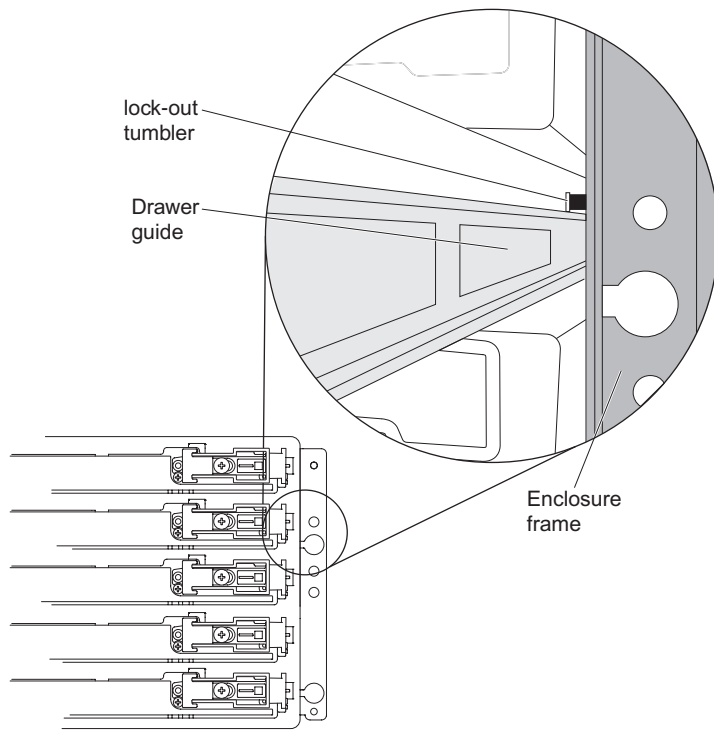

Figure 89. Lock-out tumbler located above the drawer guide
- a. At the front of the storage expansion enclosure, install the new drive drawer into the slot, making sure the lock-out tumbler is located on the top of the drawer guide. The lock-out tumbler is a small alignment piece that is attached to the frame. Figure 89 on page 127 shows the location of the lock-out tumbler as shown from the front of the enclosure.